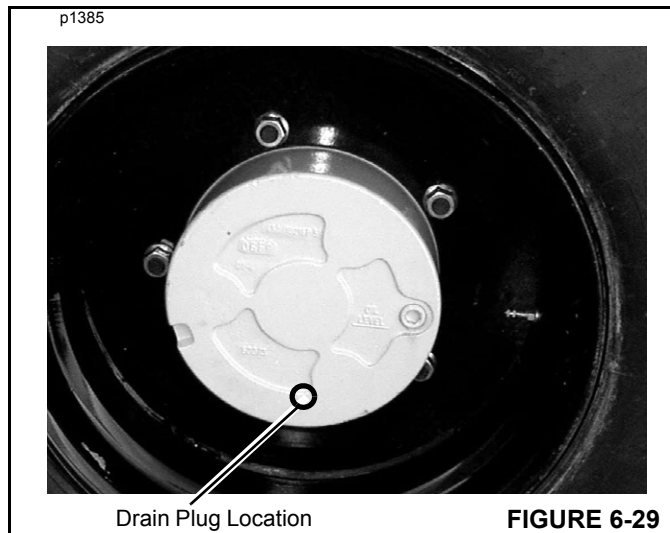

FIGURE 6-29
3. Turn one of the axle wheel hubs until the drain plug is located at the bottom of the wheel hub (Figure 6-29).